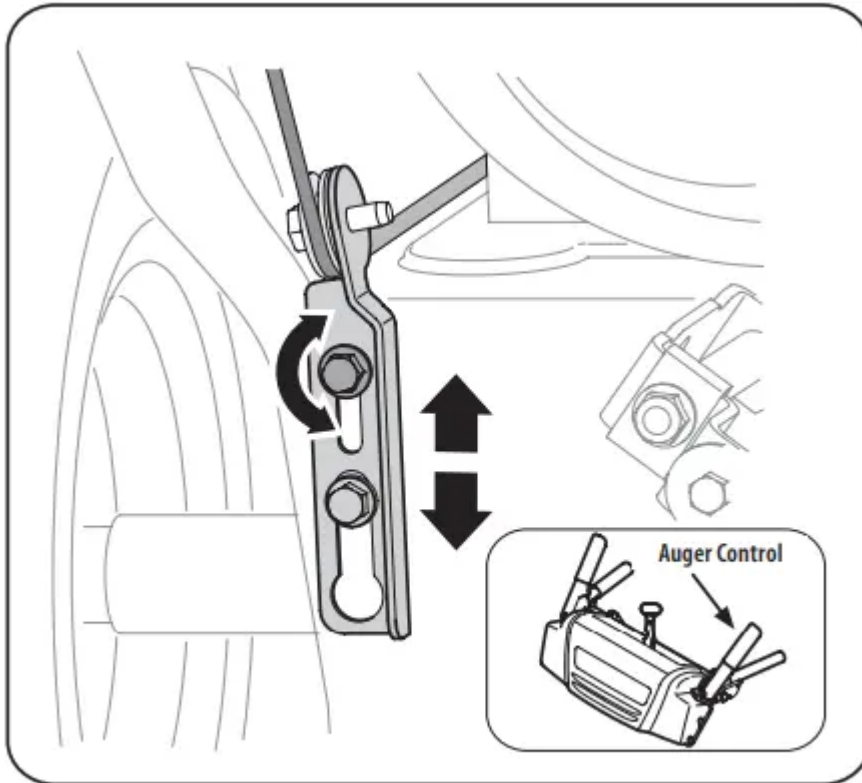

Figure 46
1. The auger control is located on the left handle. See Figure 46 inset. When the auger control is released and in the disengaged “UP” position, the cable should have very little slack. It should NOT be tight.
7. To readjust the control cable, loosen the upper hex bolt on the auger cable bracket. See Figure 46.